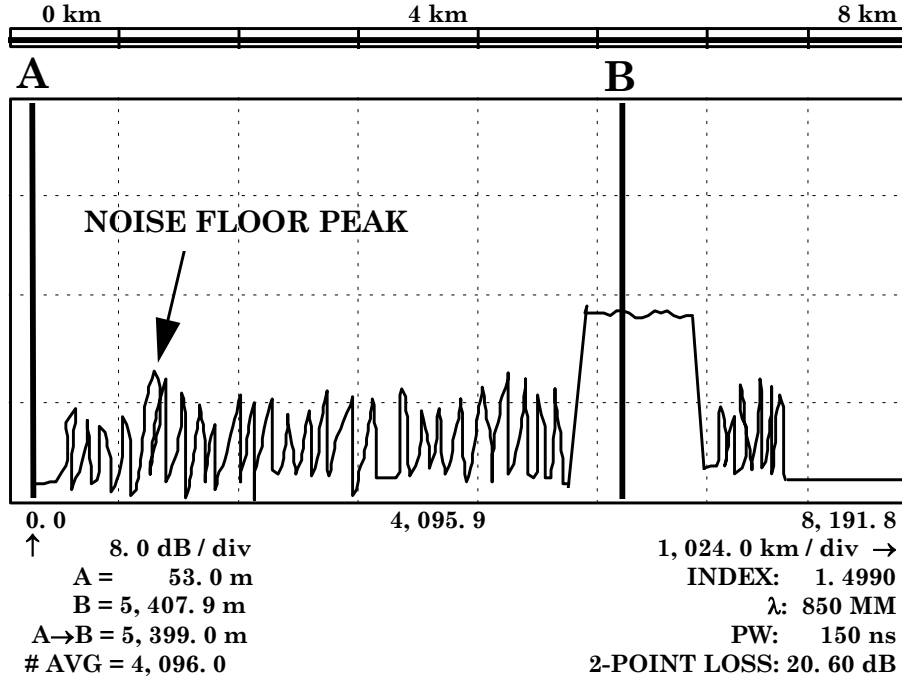

Figure 13. Top of FOCUS generated pulse within 8 dB of TI noise floor peak for fast scan (TD-260C).
(32) Press **FAST SCAN** pushbutton and wait for **LASER ON/AVG** and **WORKING** on display to go off.
(33) Record 2-point loss value as next Power High column entry on TD-260C (850 nm) Attenuation Data Sheet.
(34) Set **FOCUS-SWCM SWITCHED ATTN** to **IN**.
(35) Press TI **FAST SCAN** pushbutton and wait for TI **LASER ON/AVG** and **WORKING** indications to go off.
(36) Record 2-point loss value as next entry in Power Low column on TD-260C (850 nm) Attenuation Data Sheet (appendix A).
(37) Repeat technique of steps a(29) through (36) until top of FOCUS generated pulse is within 8 dB of TI noise floor peak (fig. 13).